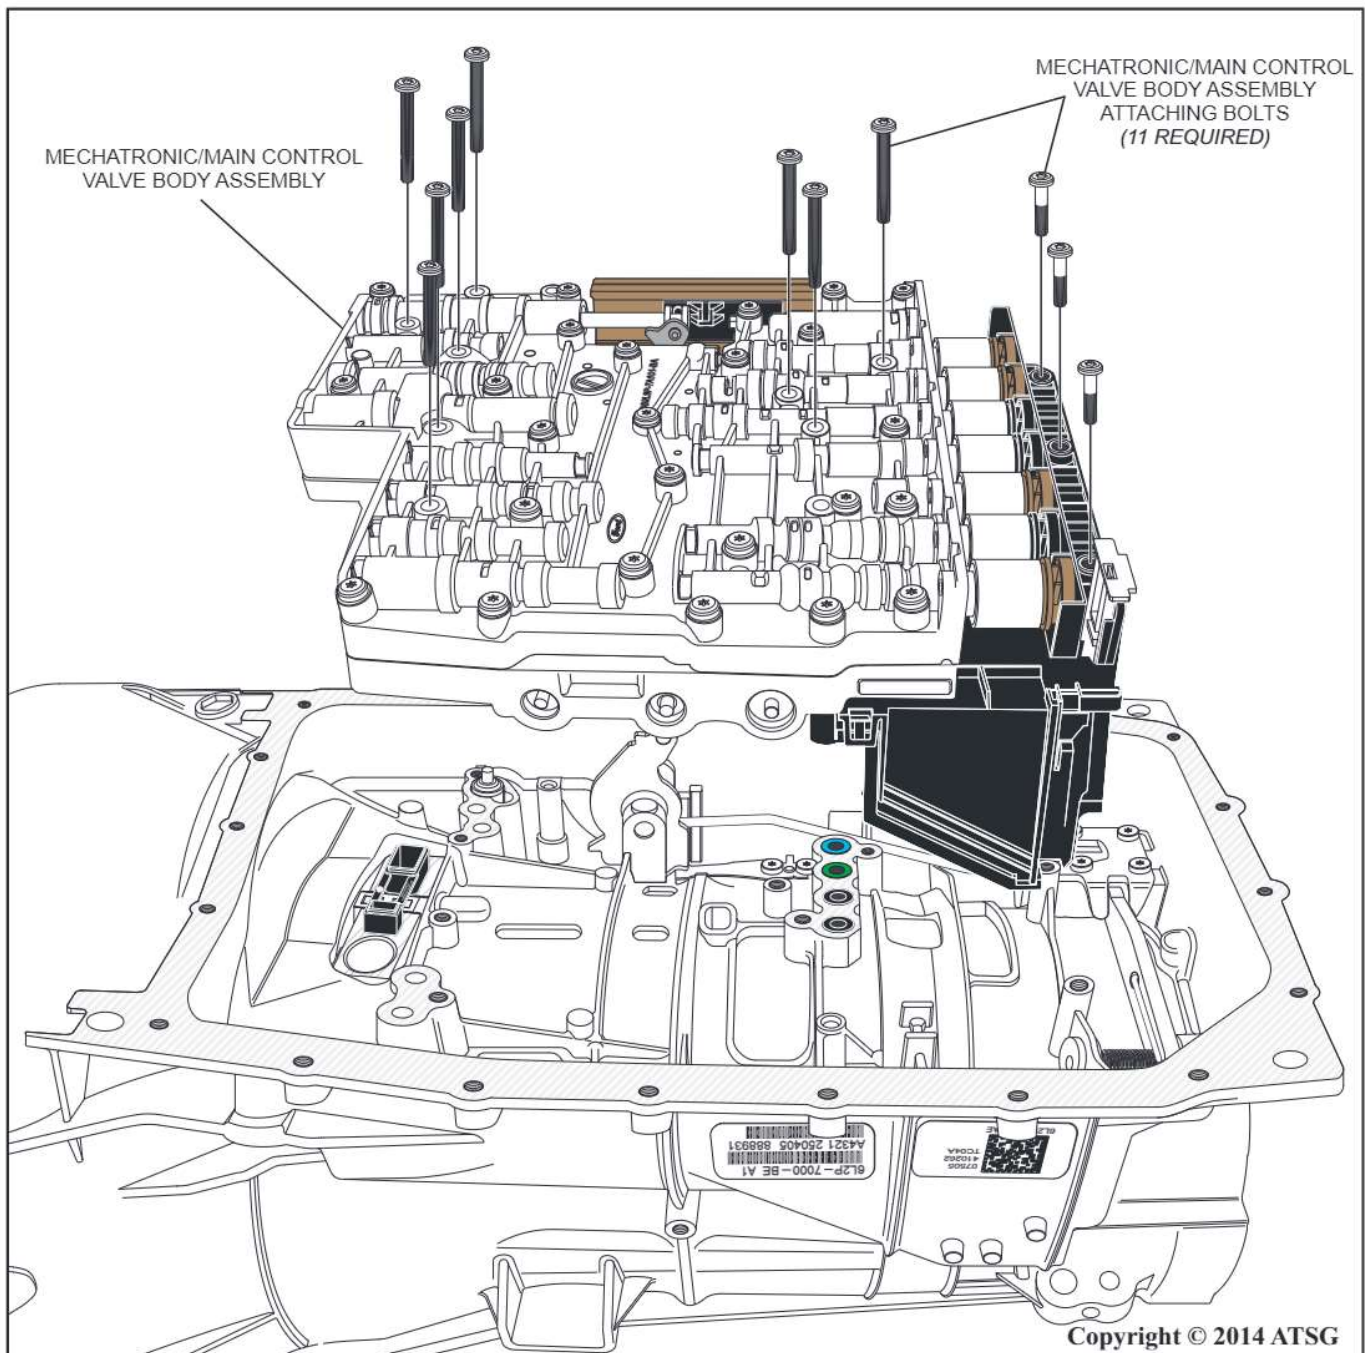

Figure 154
63. Install the mechatronic/main control valve body assembly onto the transmission as shown in Figure 154.
65. Install and loosely hand tighten the eleven mechatronic/main control valve body attaching bolts as shown in Figure 154.